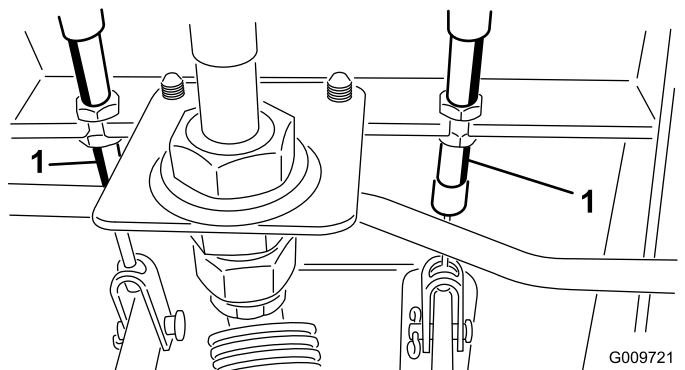

Figure 97
- A. Loosen the front nut on the threaded end of the brake cable (Figure 97).